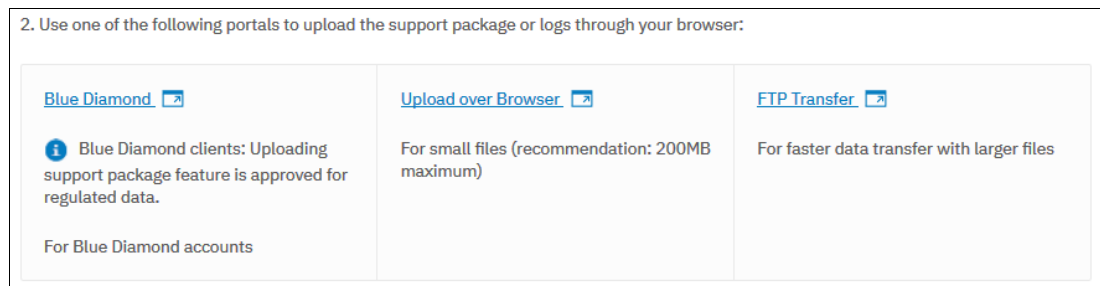

Figure 12-126 Download portals
6. After the download completes to your local computer, you can upload the package to IBM Support Center by using one of the methods that are shown in Figure 12-126.